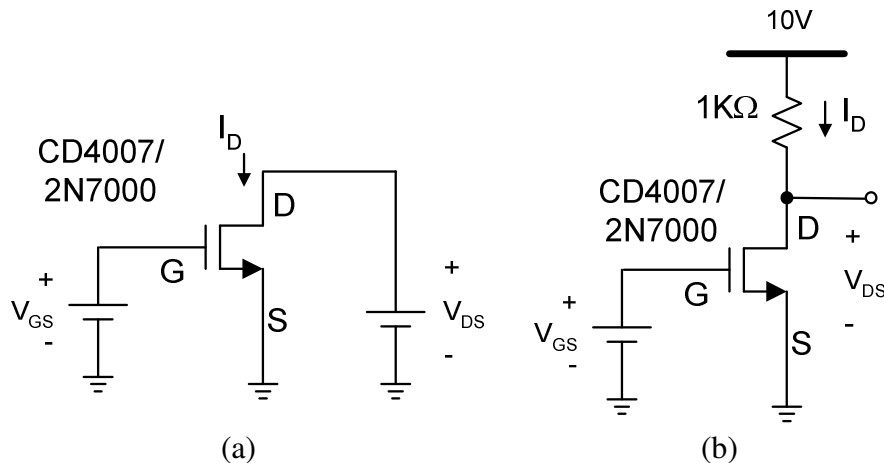
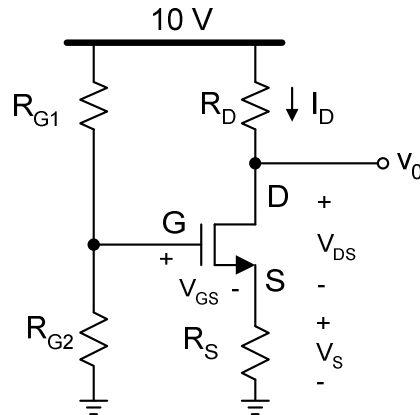

Fig. 2. (a) PSpice simulations setup (b) Schematic used for measuring the n-channel MOS transistor characteristics and small signal parameters.
Fig. 3. MOSFET based amplifier: circuit 2
A simple biasing scheme for the n-channel MOSFET is shown in Fig. 2; use $V_{DD} = 10V$. Find the important parameters for this transistor; e.g. β , λ and V_T . A simple characterization gives you this information. For Spice simulations, your TA or instructor will provide you with the necessary model files and a guide on adding them to PSpice.
1. Set up your circuit in PSpice as shown in Fig. 2(a) using first the CD4007 MOS transistor.
Unfortunately, the biasing scheme of Fig. 2 is very sensitive to changes in the MOSFET characteristics because there is no means of stabilizing the biasing point. A better biasing scheme is shown in Fig. 3. In this circuit, an
- Construct the circuit shown in Fig. 3 in Pspice using the CD4007 MOSFET. Using the parameters found in the previous steps, find the resistors such that the transistor is biased at $I_D=1\text{ mA}$ and $V_{DS}=2\text{ V}$, and $R_D/R_S=10$. The parallel combination of R_{G1} and R_{G2} should be greater than $100\text{ k}\Omega$. For your calculations you can ignore the λ effect. Simulate your results. Repeat for the 2N7000 MOSFET with $I_D = 20\text{mA}$, while keeping all other requirements the same.
- Using the CD4007, connect the circuit of Fig. 2(b); the $1\text{ k}\Omega$ resistor will limit I_D to 10mA and keep the V_{DS} voltage greater than or equal V_{GS} for a wide range. Sweep V_{GS} from zero up to a voltage such that $I_D = 5\text{mA}$. Record the results for at least 20 different values with emphasis around the expected V_T . Plot the results in the I_D - V_{GS} plane.
1. Using the CD4007, connect the circuit of Fig. 3, use the values obtained in the pre-lab. Measure the operating point (I_D , V_S and V_D), and compare these values with Spice results. Comment on any differences; how do you explain them? Try using a pot (10~25 K Ω) between R_{G1} and R_{G2} with the middle terminal connected to the MOS gate. Explain why this works better than using two fixed values for R_{G1} and R_{G2} .